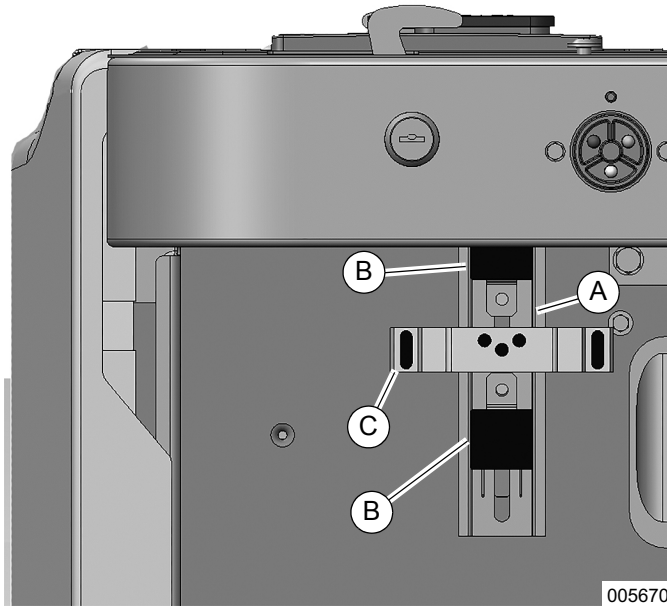

Figure 5-5. Mount DIN Rails and Relays
- See Figure 5-5. Mount the DIN rail (A) to the drilled holes in the engine divider panel with two M4-0.7 X 10 (8-32 x 0.5 in) fasteners and nuts.